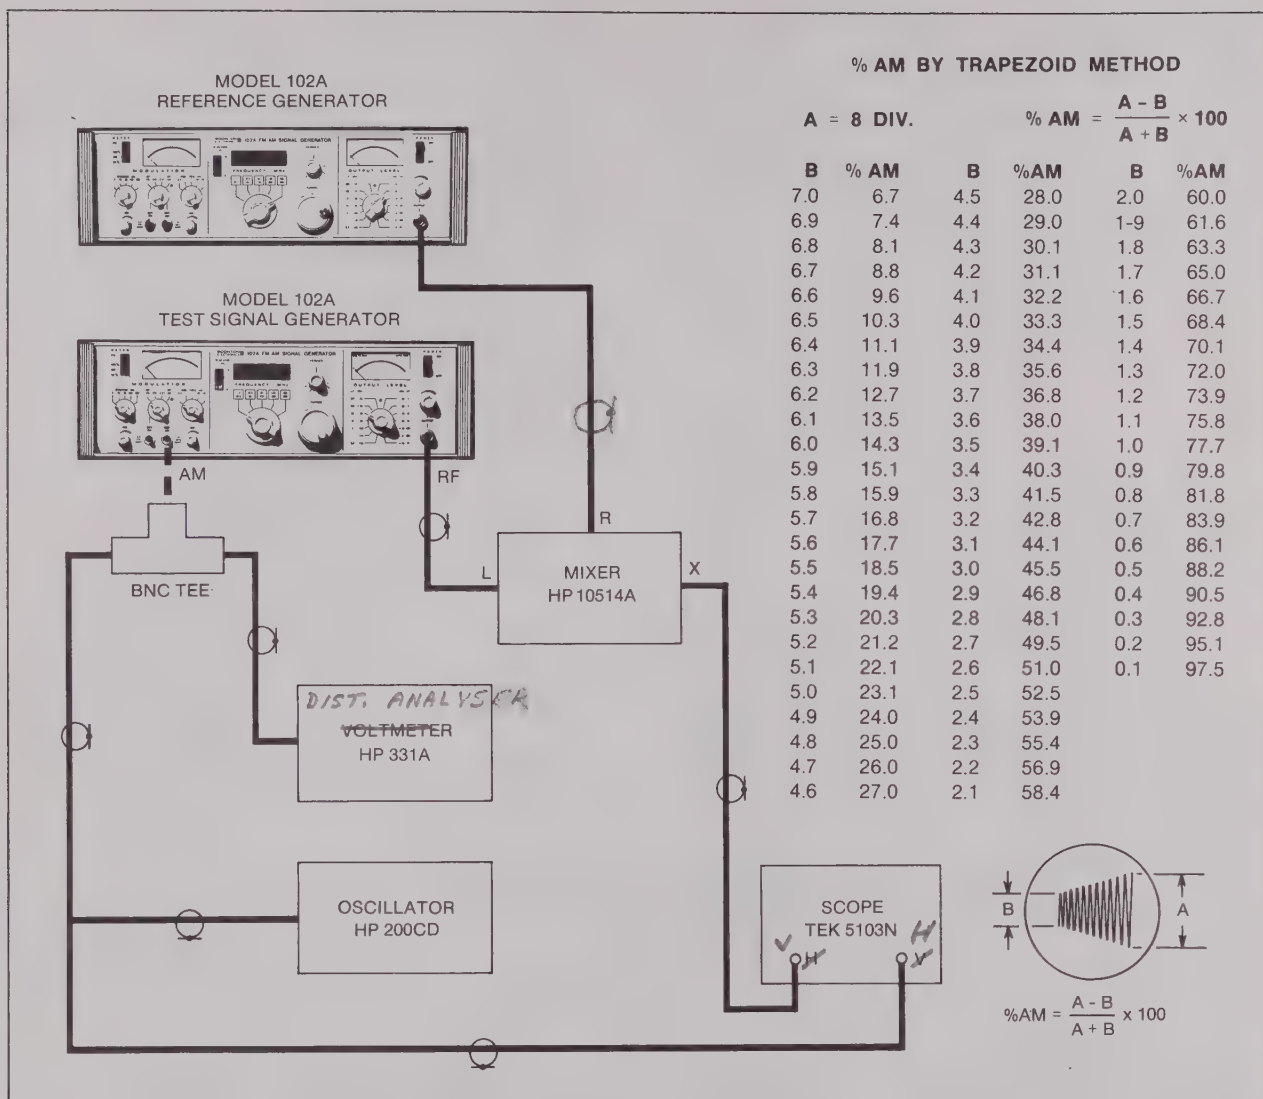

Figure 2-22 AM Sensitivity Check, Test Setup
1. Connect the test Model 102A and test equipment as shown in Figure 2-22.
4. Set the oscillator controls to provide an output frequency of 1 kHz. Adjust the amplitude control of the oscillator to produce a trapezoid of 8 divisions (dimension A, Figure 2-22) by 4.3 divisions (dimension B) on the oscilloscope. This corresponds to 30% AM. Observe the voltage indication on the distortion analyzer meter. *The voltage should not exceed 1.0 volt rms.*
1. Set the METER switch on the *test* Model 102A to 30% AM. Set the oscillator frequency controls to provide a 1 kHz output frequency. Adjust the oscillator amplitude control as required to position the pointer of the MODULATION meter on the *test* Model 102A to exactly 30 on the lower scale. Adjust the vertical gain on the oscilloscope as required to produce a trapezoid with an A amplitude (Figure 2-22) of 8 divisions. Measure and record the B dimension of the trapezoid. Calculate the actual percentage of AM, using the formula given in Figure 2-22. *The actual percentage of AM should be 27.0 to 33.0%.*